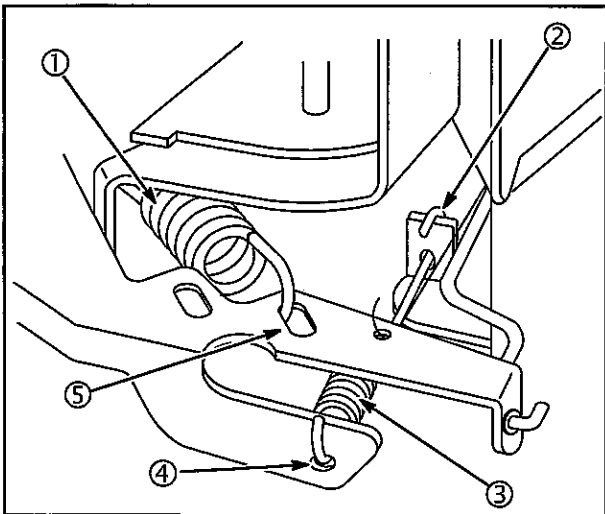

Fig. 38
No governed idle spring is used with this system. No throttle restrictor adjustment is necessary. The primary governor spring (1) is installed in #2 hole on governor lever (5). A secondary governor spring (3) is installed with loop (4) over the governor lever tab (4), and the rear loop facing (2) UP as shown in **Fig. 38**.